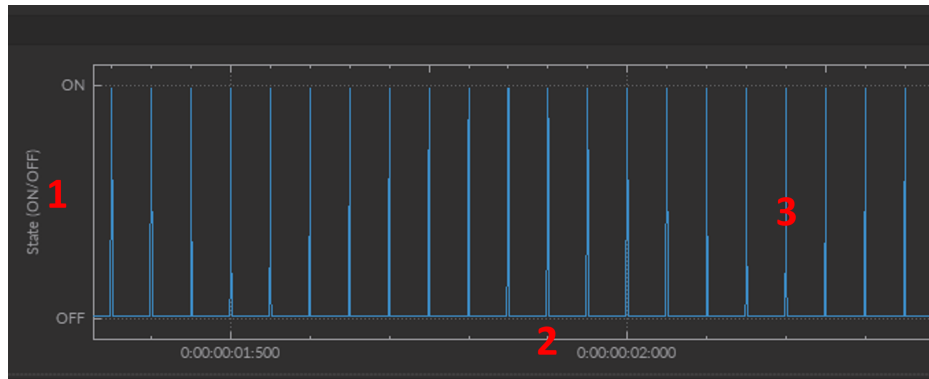

Figure 13.38: Digital I/O(s) View - Graph
1. The **Y-axis** (Fig. 13.38, 1) displays the Digital **State** of the channel, which can be either ON (1) or OFF (0).
2. The **X-axis** (Fig. 13.38, 2) displays the time in d:hh:mm:ss:zzz.
3. The **Trace** (Fig. 13.38, 3) can be edited by selecting the **Graph** button in Section 13.5.1.1, no. 3.